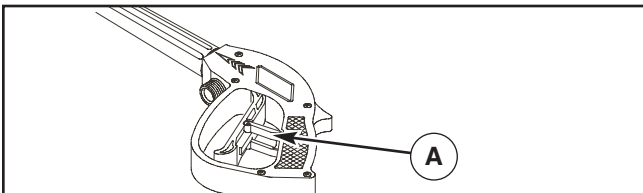

Figure 9: Spray gun with trigger lock engaged
7. Engage trigger lock (A) on spray gun trigger (Figure 9).